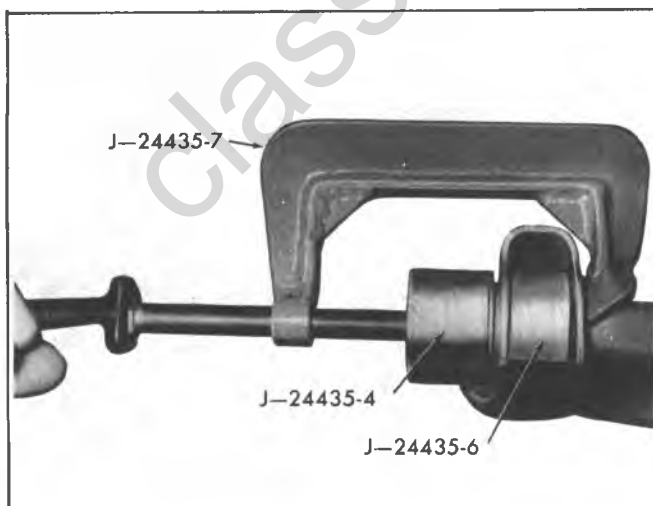

Fig. 3C-26--L.C.A. Rubber Bushing Installation
Bushing Installation (Fig. 3C-26)
1. Install new bushings as shown in Figure 3C-26 using spacer J-24435-6, installer J-24435-4 and "C" clamp J-24435-7.
NOTICE: Be sure spacer J-24435-6 is in position as shown in Figure 3C-26 to avoid collapsing control arm during assembly.